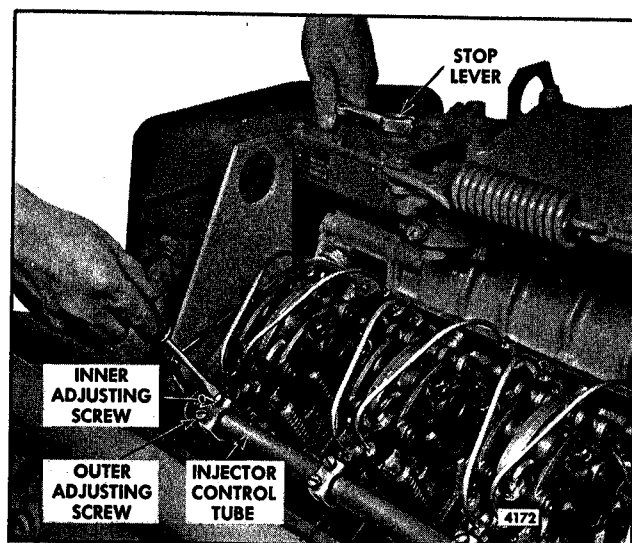

Fig. 3 - Positioning No. 1L Injector Rack Control Lever
6. Move the stop lever to the **run** position and hold it in that position with light finger pressure. Turn the inner adjusting screw of the No. 1L injector rack control lever down (Fig. 3) until a slight movement of the control tube is observed, or a step-up in effort to turn the screw driver is noted. This will place the No. 1L injector rack in the full-fuel position. Turn the outer adjusting screw down until it bottoms lightly on the injector control tube. Then, alternately tighten